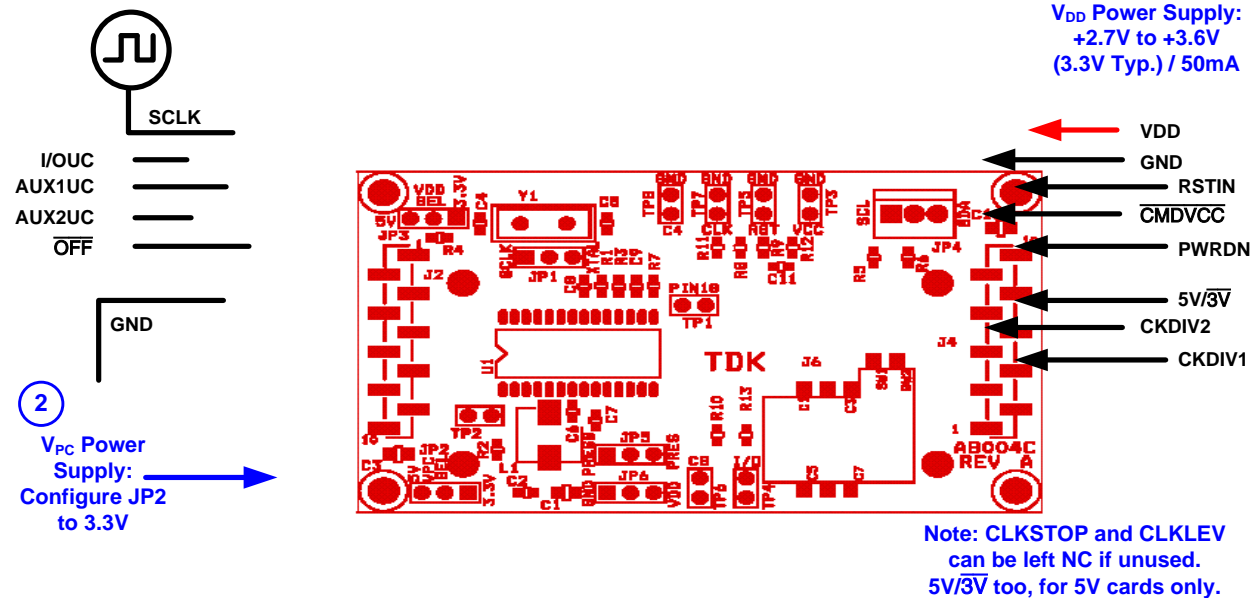

Figure 2: 73S8024C Demo Board Basic Connections
The basic connections to the demo board are described below and shown in Figure 2.
2. Control signals to the device can be connected through J2 and J4 (see Figure 2 and the Electrical Schematic, Figure 5).
- Apply 3.3V (1) or GND (0) to CLKDIV1 and CLKDIV2 pins to set the desired clock rate as follows: